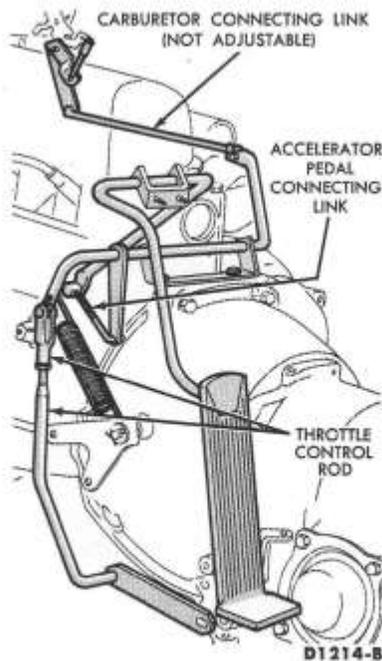

FIG. 2—Throttle Linkage
connect the throttle control rod at its clevis end (Fig. 2). Loosen the clevis locknut.
6. Perform the pressure test quickly to avoid overheating the transmission. Increase the engine speed to 1200 rpm and note the gauge reading. If the pressure reading is below specification (Table 1, Part 6-3), the throttle control rod clevis must be rotated to shorten the rod (Fig. 2). If the pressure reading is more than specification, the clevis must be rotated to lengthen the rod.